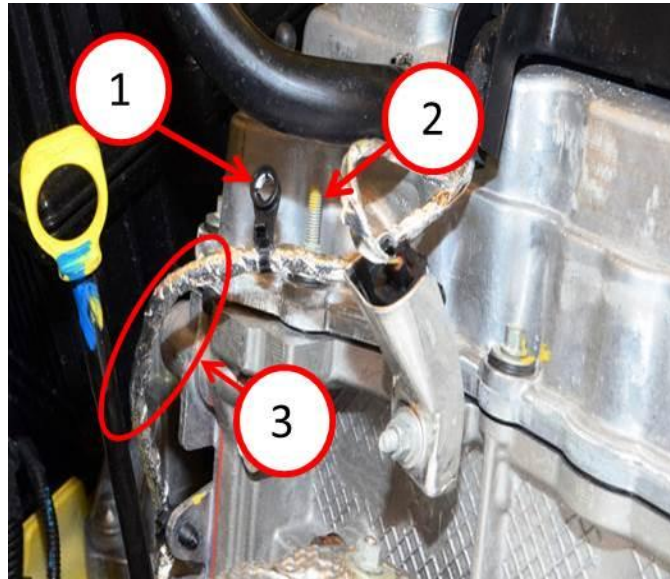

Fig. 7 Reflective Tape And Retainer
- 13. Using reflective tape, completely cover Tesa tape (Fig. 7).
- 14. Install plastic harness retainer to threaded stud (Fig. 7).
- 15. Using a white paint pen, place witness mark on wire harness retainer (Fig. 7).